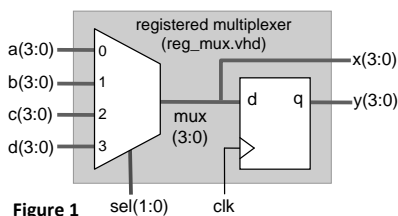
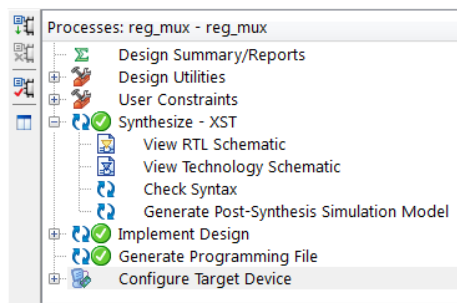

Figure 1
Figure 5
This tutorial is based on **ISE 11.1 WebPack** (free at www.xilinx.com). The circuit used in the tutorial is the registered multiplexer of figure 1.
The registered multiplexer studied in Section 10.5 (repeated in figure 1 below) will be used in this tutorial. Its design and test files are the following:
c) The design is now ready to be synthesized. At this point, the Processes window will look like that in figure 5. Note that under the synthesis process there are four possible actions. For example, if the input files are still being debugged, one
c) *RTL view:* Double-click **View RTL Schematic** in figure 5 or select **Tools > Schematic Viewer > RTL**. The Create RTL Schematic dialog will be opened. Click the “+” icon next to Signal, select all signals in the list, then click **Add** to copy the signals to the column on the right. Finally, click **Create Schematic**. The result is shown in figure 7a. Note that this circuit coincides with that in figure 1. This is how our circuit was understood by the synthesizer (after optimization and place & route it might look a little different, but obviously still with the same functionalities).
d) *Technology view:* Double-click **View Technology Schematic** in figure 5 or select **Tools > Schematic Viewer > Technology**, then proceed as in step 4c above, which will cause the final circuit to be exhibited (figure 7b).
c) Still in the Sources window, highlight the design file (*reg_mux.vhd*), which will cause the menu shown in the Processes window of figure 5 to be displayed.